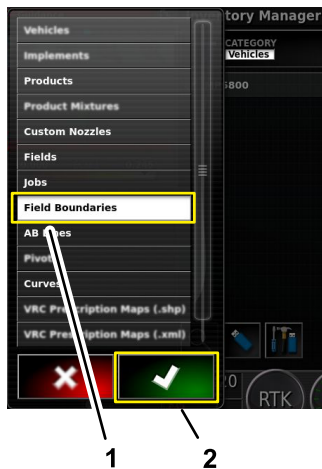

Figure 104
5. If the word of the information type (products, custom nozzles, fields, or field boundaries) that you are importing is not displayed on the Category icon, press the Category icon (Figure 104).
6. In the category list, press the icon for the information category that you want to import, and press the confirm icon (Figure 104).